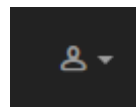

Figure 10. Partner Portal (Profile icon)
3. Hover the mouse cursor over the Profile icon in the upper right-hand corner of the web page (Figure 10 \(page 40\)). Click the **Account** option.